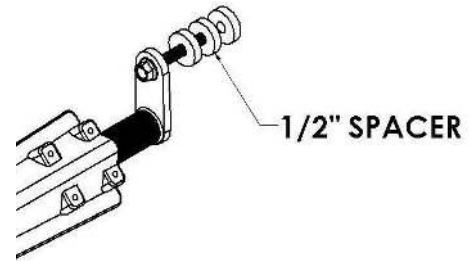

Figure 4
C. Spacers are supplied to bring the steel swivel away from the frame in the event of any obstructions (Figure 4).